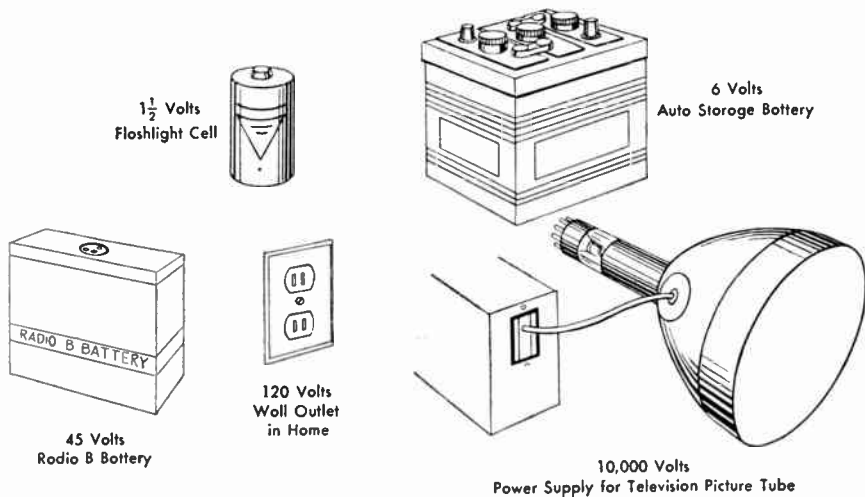

Fig. 3. Examples of voltages encountered in servicing work
**Volts and Millivolts.** The answer to any question about how much voltage exists between two terminals is expressed in *volts*. Voltages of some of the devices you will encounter in your work are indicated in Fig. 3. The shock that you feel becomes more violent as the voltage goes up.